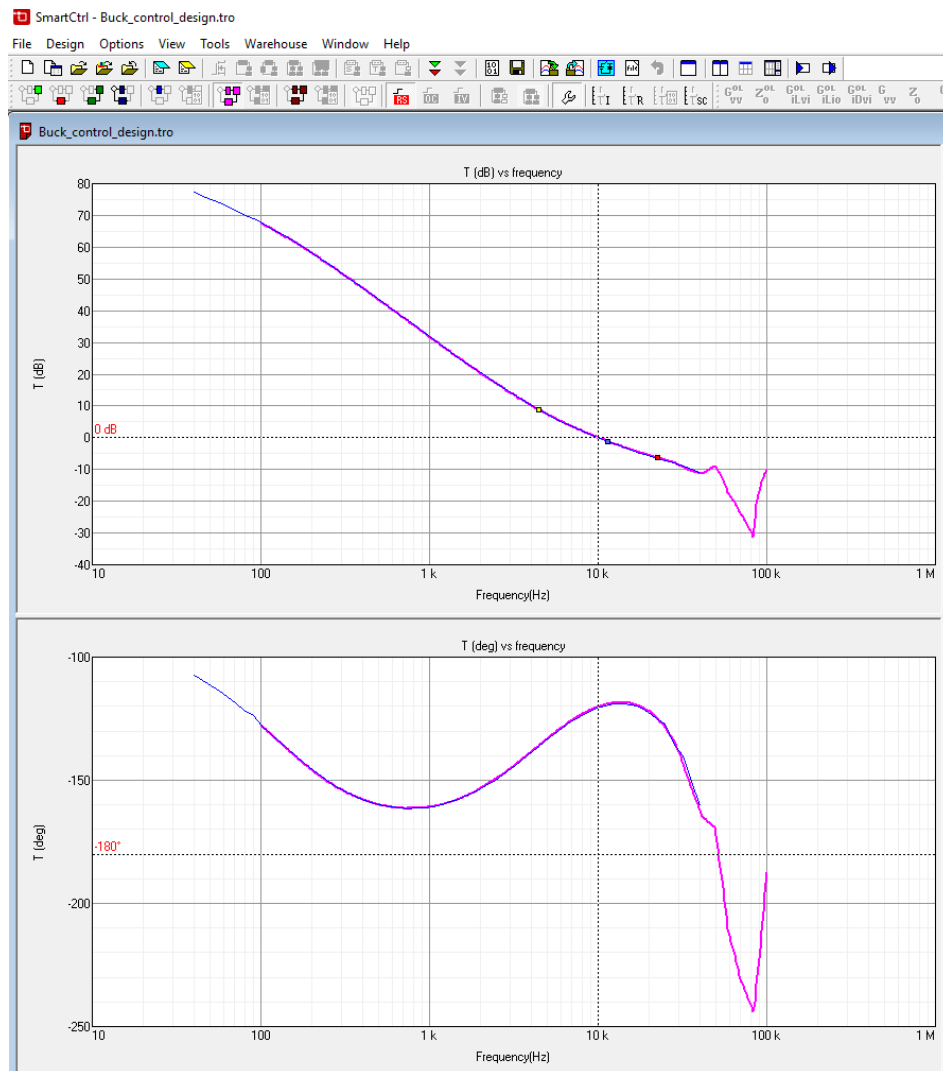

Figure 23: SmartCtrl open loop gain compared with Psim measured open loop gain
6. Both traces: SmartCtrl one and the one imported from Psim will be represented on the same plots. See Figure 23.
7. As it can be seen in Figure 23, both are exactly the same. So, SmartCtrl design is totally correct.